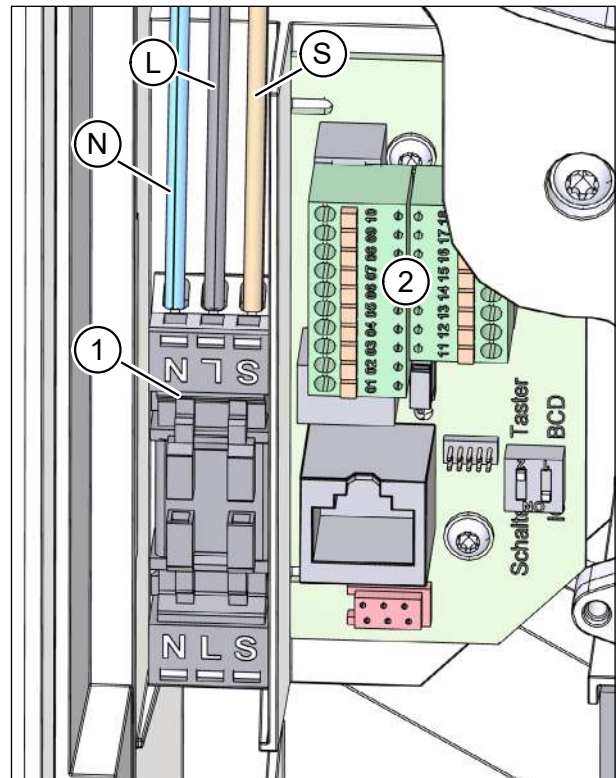

Fig. 47: Connecting the mains cable and control cable (if used)
- No protective earth (PE) conductor is required.
- ▶ Connect the neutral conductor N (item N in Fig. 47) and the outer conductor L (item L in Fig. 47) to the connector (item 1 in Fig. 47) in the ventilation unit.
- ▶ If used, connect the wire for the external control input (item S in Fig. 47) to the connector.
- ▶ If used, connect the control cable to the terminal block (item 2 in Fig. 47) on the connection board (only on certain ventilation units, see Table 4 in section 10.9 on page 29).